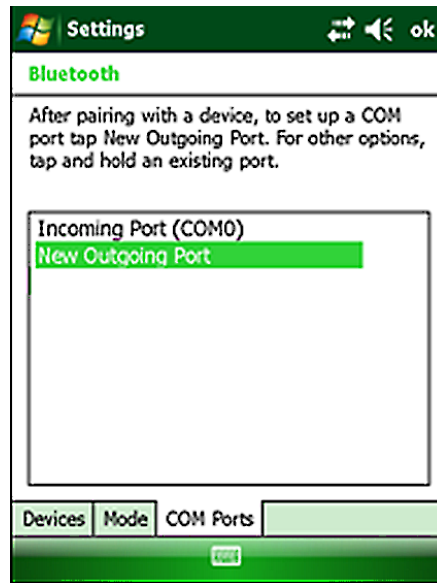

Figure 21 - New Outgoing Port
- 6) Click on the COM Ports tab. If the “Geokon” device is already assigned to a COM Port, skip to step nine. If no COM port is assigned, select “New Outgoing Port”. In the example shown in Figure 21, there is no COM Port assigned to a “GK604” device.